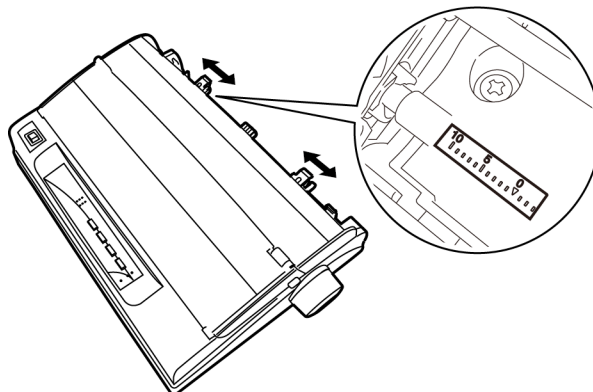

Figure 3-8 Adjust the position of the sprockets
4. Slide the left sprocket referring to the scale on the printer. The printer prints to the right of the 0 scale. Push the left sprocket lock lever to lock the left sprocket in place. Then slide the right sprocket to match the width of your paper, but do not lock it. Move the paper support so it is midway between the tractors. (Shown as figure 3-8)